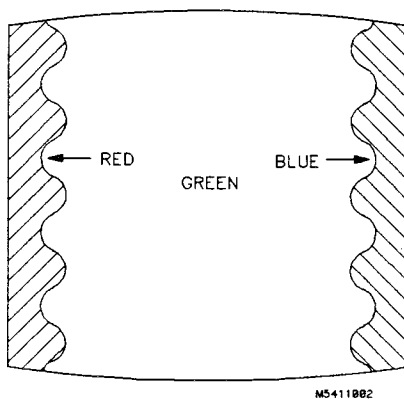

Figure 4-5. Purity Magnet Adjustment Raster
6. Move deflection yoke rearward until left edge of raster turns red and right side of raster turns blue. Refer to figure 4-5.
7. Adjust purity magnets until green is in center of raster with red and blue bands evenly distributed on sides. Refer to figure 4-5.